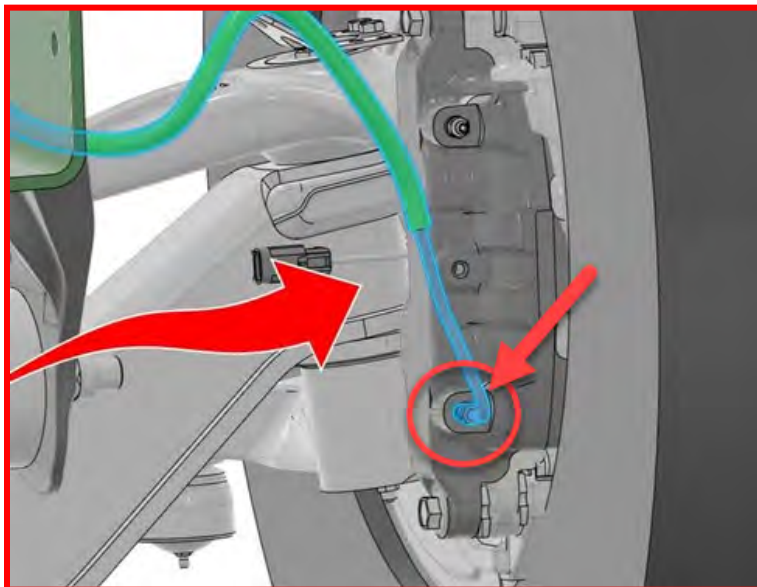

Figure 17 - Rubber Brake Hose-to-Caliper Fitting
9. Install the front rubber brake hose to the caliper (Figure 17) - DO NOT TIGHTEN.